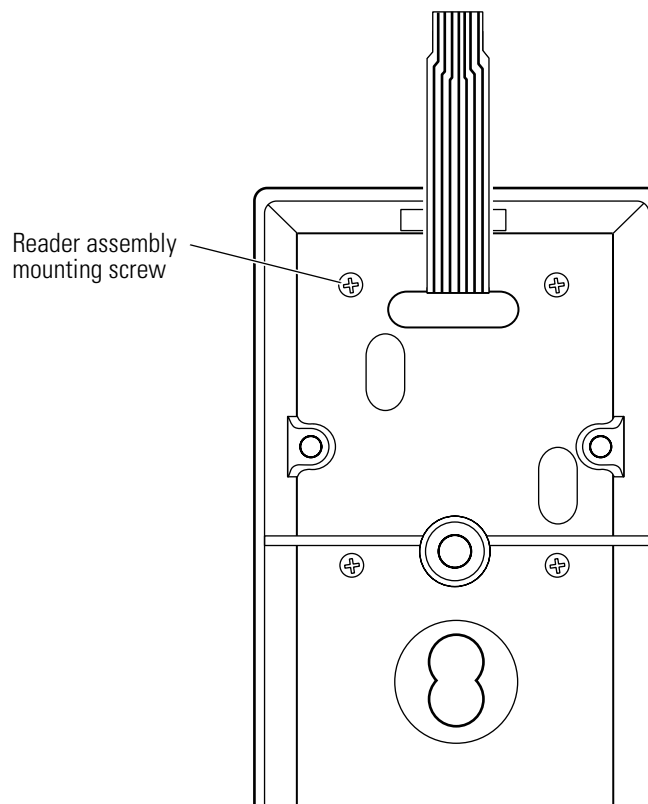

Figure 9.17 Removing and reinstalling the screws for the smart card reader assembly
2. Remove and save the four reader assembly mounting screws. See Figure 9.17.
2. Position the smart card reader assembly on the reader gasket and install the four reader assembly mounting screws. See Figure 9.17.